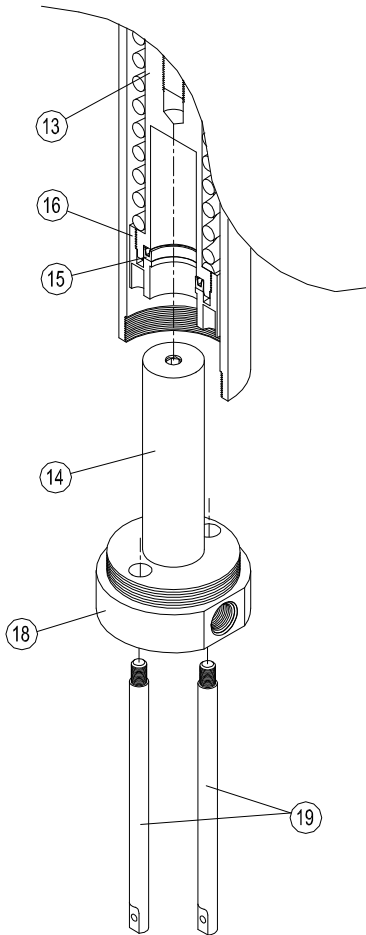

Figure 3
TO REPLACE STUFFING BOX PACKING OR PISTON HYDRAULIC SEAL: Disconnect hydraulic line. Unscrew indicator pins (19) and piston/holder assembly (14) & (18) (See FIGURE 3). Inspect piston (14). Replace piston (14) if the piston contains scratches that cannot be easily removed by polishing.